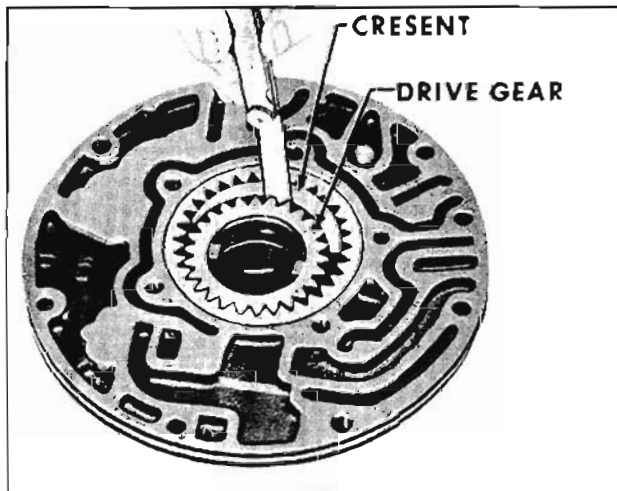

Fig. 6-335 Checking Clearance
- c. Check clearance between oil pump drive gear and crescent. The clearance allowed is .004" to .009". (Fig. 6-335)